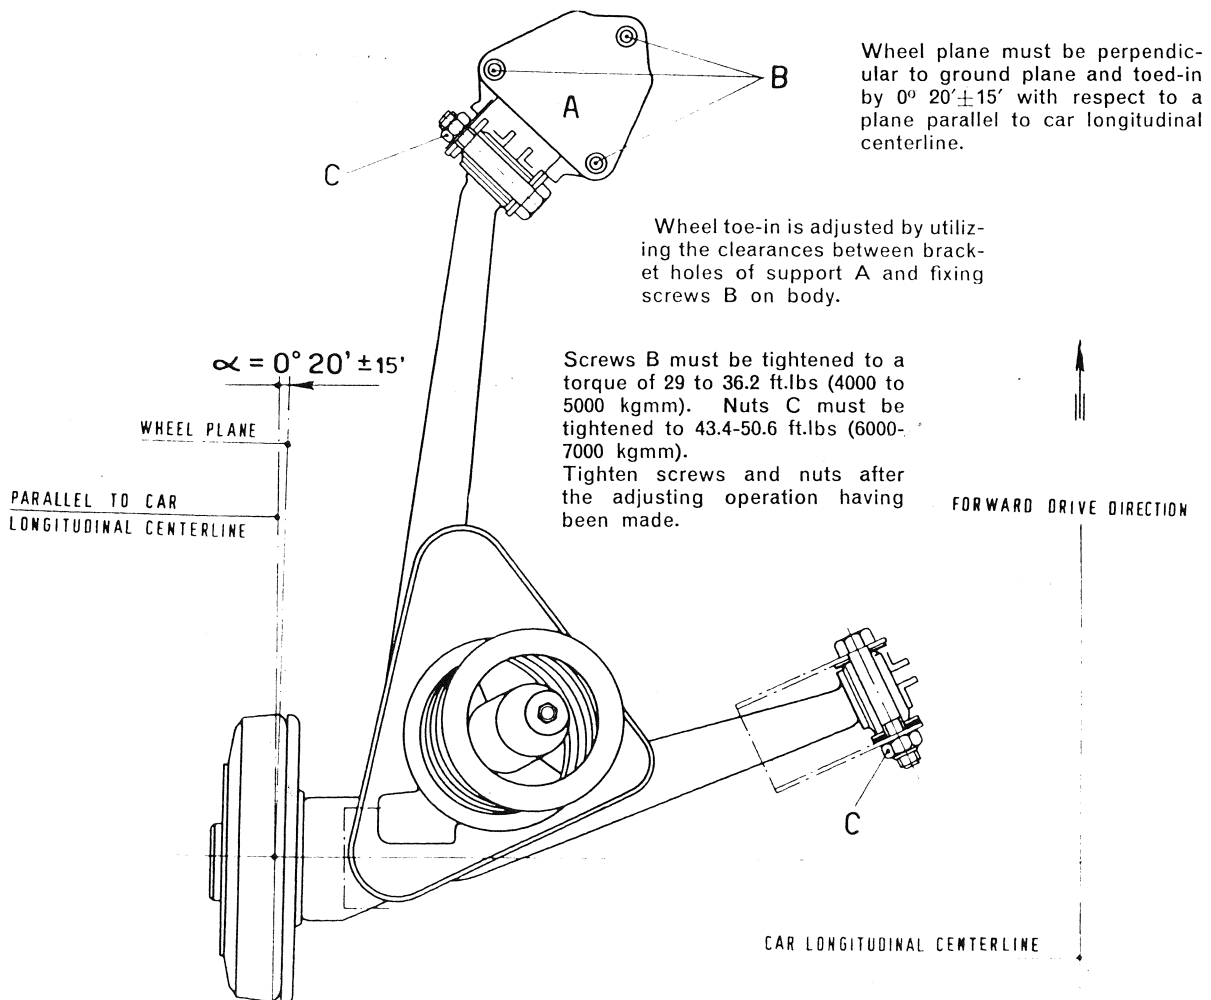

Fig. 317 - Adjusting rear wheel geometry.
- toed in by $0^{\circ} 20' \pm 15'$ (angle α , fig. 317) to a parallel line to car longitudinal centerline;
Slight movements are permitted by the play existing between the support holes (A, fig. 317) and the mounting screws (B).
It should be noted that to a toe-in angle variation of $0^{\circ} 15'$ (α , fig. 317) corresponds a displacement of about .3346 (8,5 mm) measured at 78.7'' (2 m) from wheel center (distance equal to car wheel-base).
- f) Slacken screws B (fig. 317) securing swinging arm external support A (fig. 317) to body bot-
After performing the adjustment tighten screws B (fig. 317) to 29-36.2 ft.lbs (4000-5000 kgmm) and then tighten nuts C (fig. 317) of the swinging arm pins to 43.4-50.6 ft.lbs (6000-7000 kgmm).